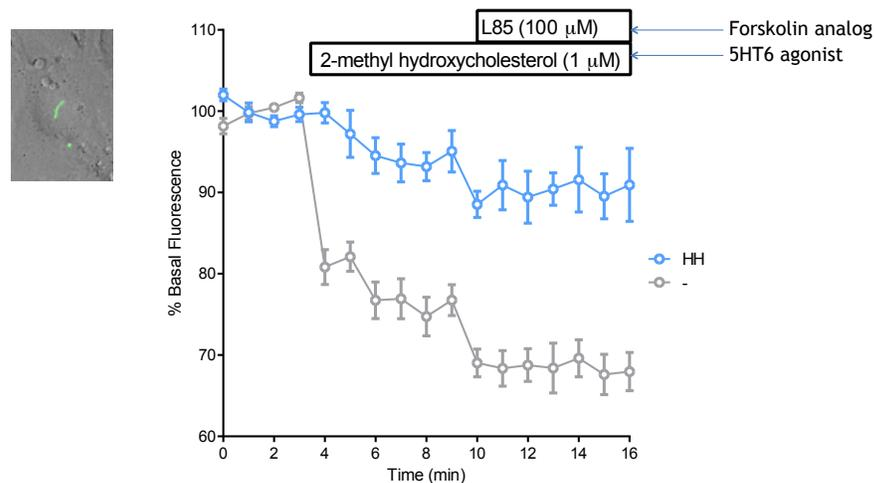

Figure 1
- Cells are now ready for assay. Prior to imaging, replace culture media with DPBS. Wash gently so as not to dislodge cells. **Cover the cells and allow them to rest at room temperature in DPBS for 20-30 minutes before measuring fluorescence.** Experiments are performed at 25°C using standard GFP excitation and emission wavelengths. Figure 1 shows an example of the sensor response in gray in IMCD3 cells, imaged on the left (Moore 2016).